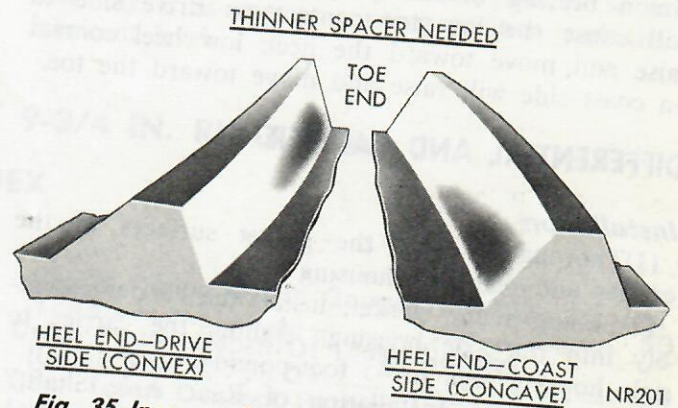

Fig. 35 Incorrect Tooth Contact Pattern (Decrease Spacer Thickness)
(4) If after observing the contact pattern you find it resembles that in (Fig. 35), the drive pinion is too close to the ring gear, the pattern will appear low on the toe on drive side and low heel contact on coast side. To correct this type tooth contact pattern, decrease the thickness of the rear